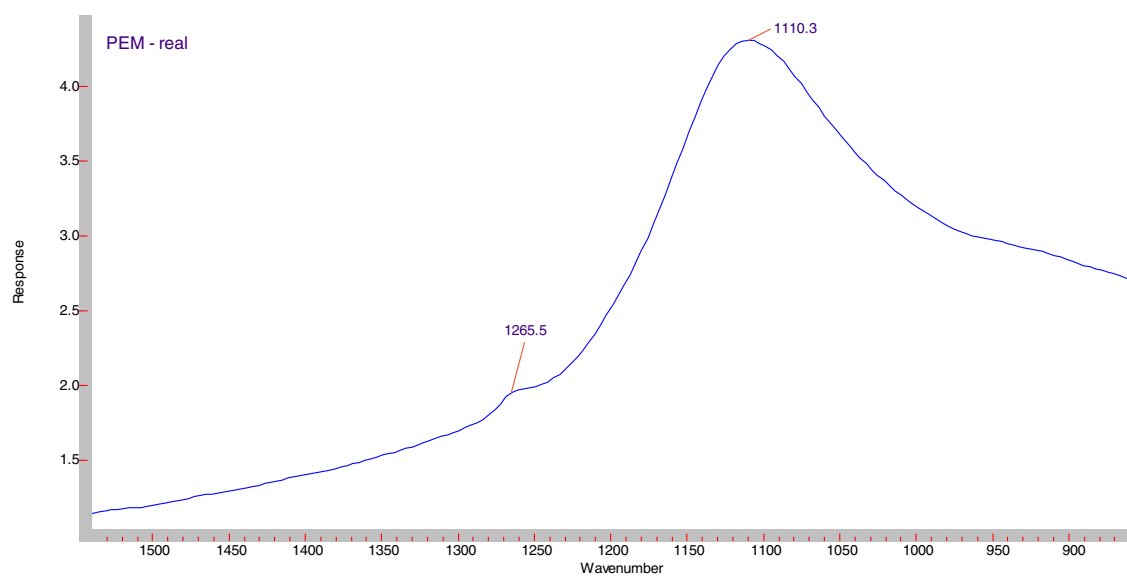

Figure 10. Ratio of spectrum 5 to spectrum 1
21. Zoom in on Spectrum 5 between approx 1500-900  $\text{cm}^{-1}$ . The spectrum should look similar to Figure 10 with a large broad peak at  $\sim 1110 \text{ cm}^{-1}$  and a weaker peak at  $\sim 1265 \text{ cm}^{-1}$ .